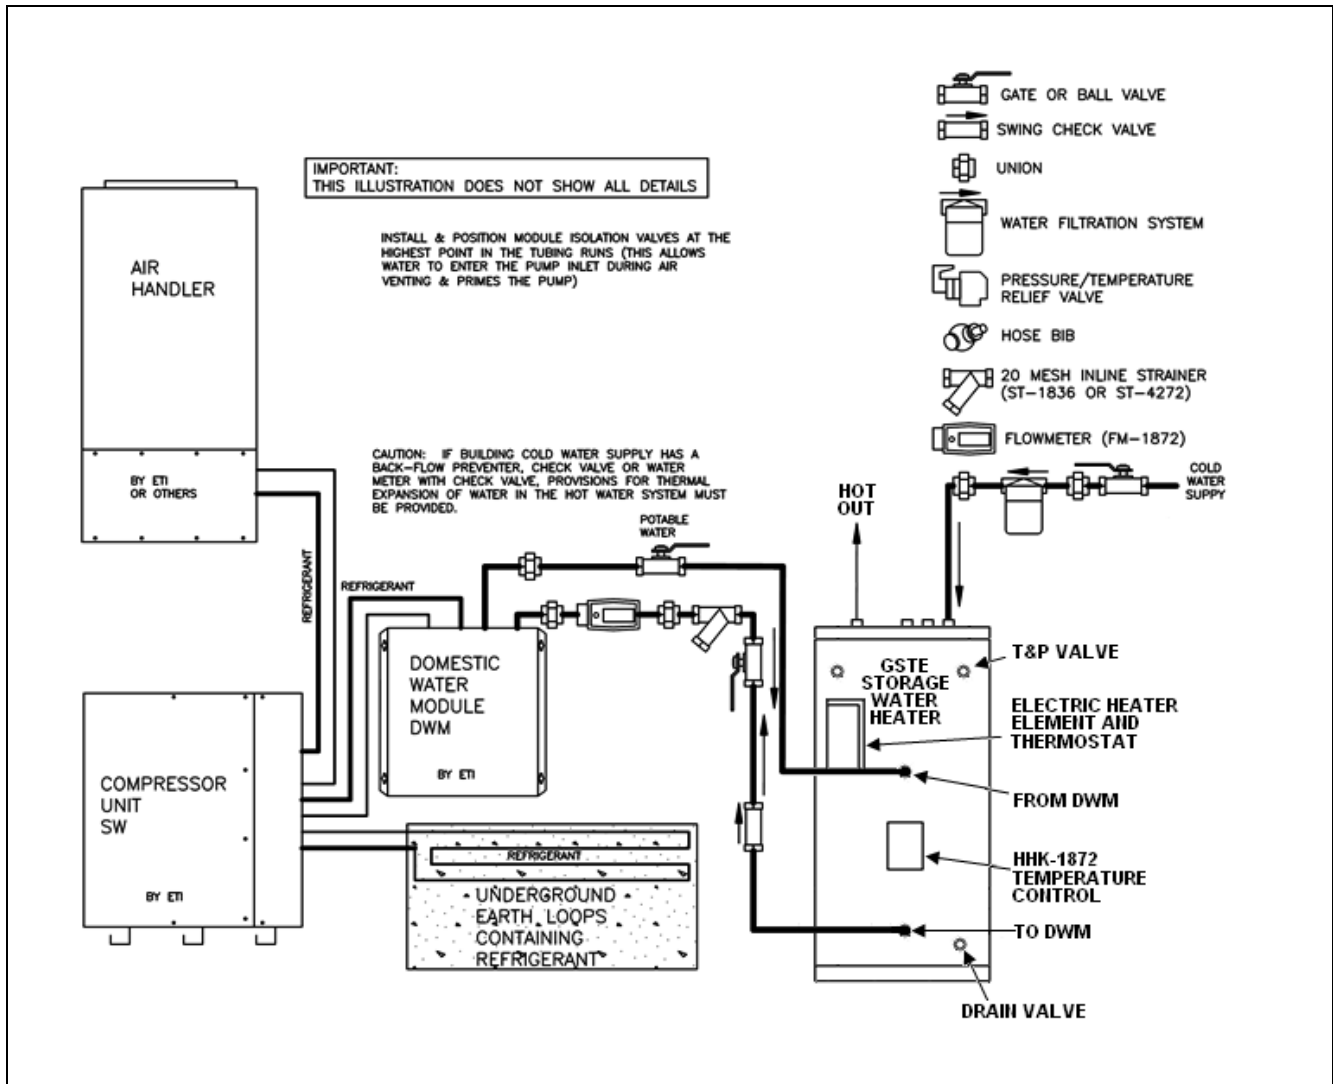
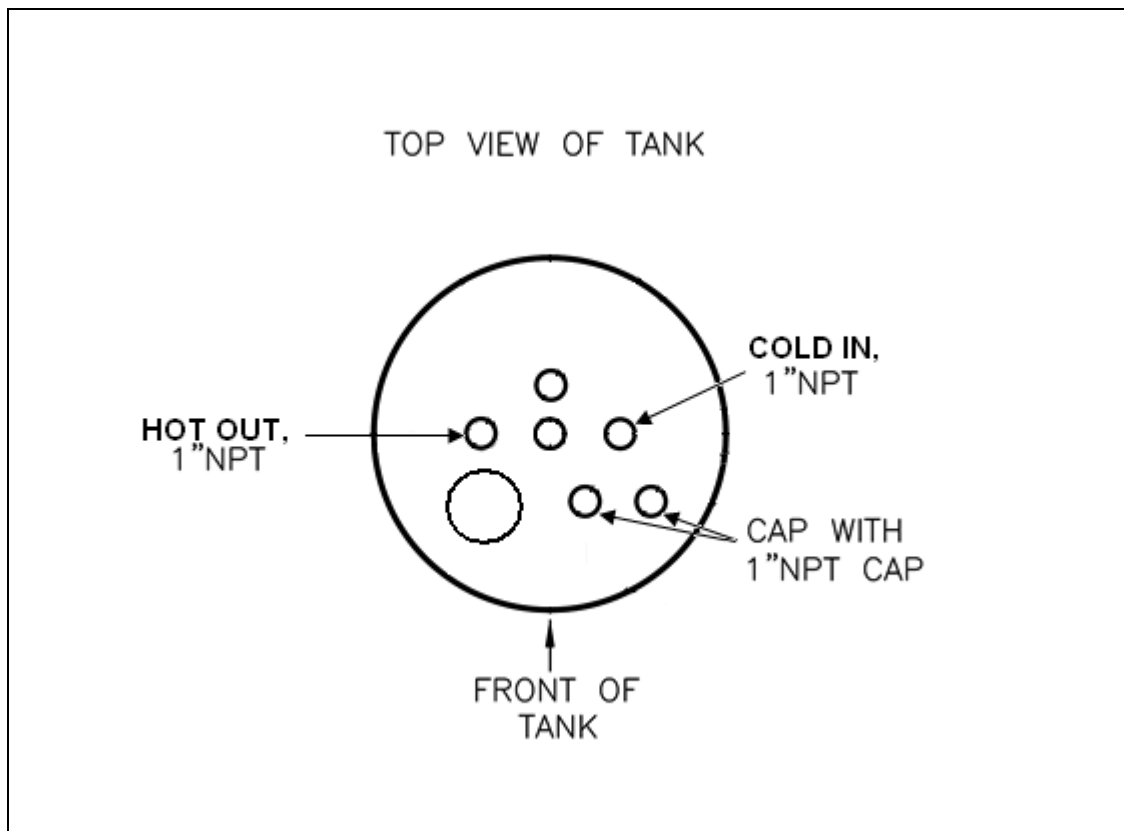
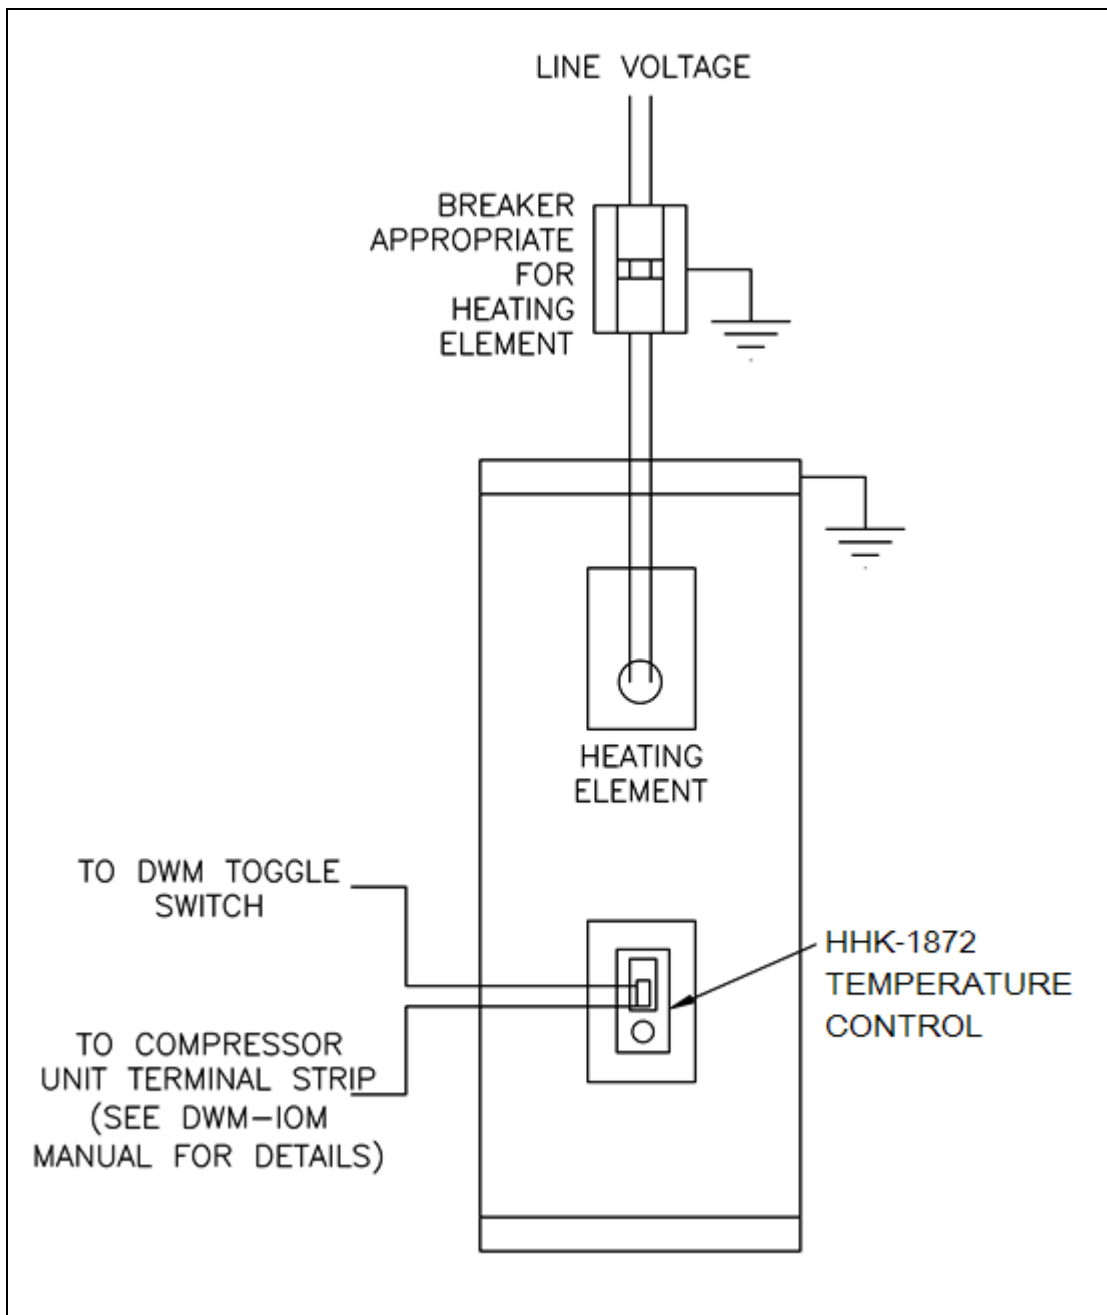

Figure 3a. Domestic (DWM) Water Heating Application
Figure 3b. Top of Tank Connections – DWM
Figure 3c. Electrical Field Wiring – DWM
- Figure 3a. Domestic (DWM) Water Heating Application 9
- Figure 3c. Electrical Field Wiring – DWM 11
Figure 3a illustrates the installation of GSTE storage water heater with a Domestic Water Module for a residential heating application. Location of the GSTE storage water heater from the DWM is to be no more than 10 ft. apart. Water piping and connections between the compressor unit and tank are all 1-1/2" Type L copper for the models DWM-4248 and DWM-6072. Piping and connections are 1" Type L copper for model DWM-1836. Detail for the ports and connections on top of the storage water heater are shown in Figure 3b. The electrical field wiring for the electric heater element and thermostat are illustrated in Figure 3c.